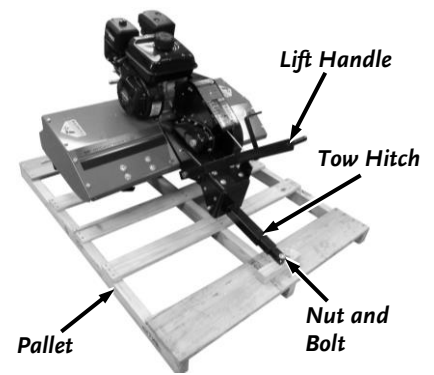

Figure 3
1. Use two 9/16" Wrenches to remove the Bolt and Nut securing the Tow Hitch to the Pallet (**Figure 3**).